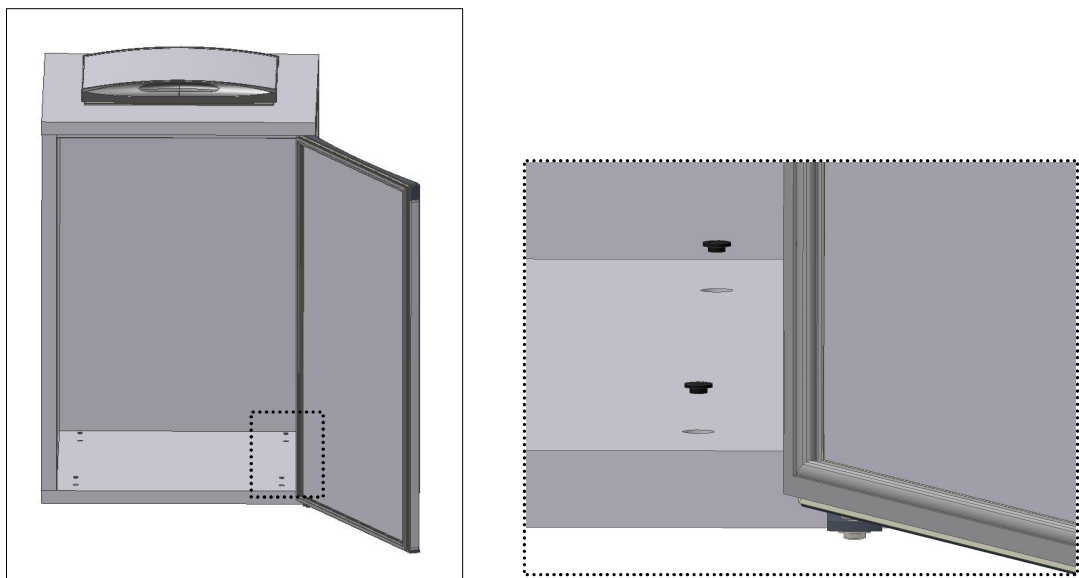

Fig. 12
- Insert the **screw caps** in the bottom (Fig. 12);